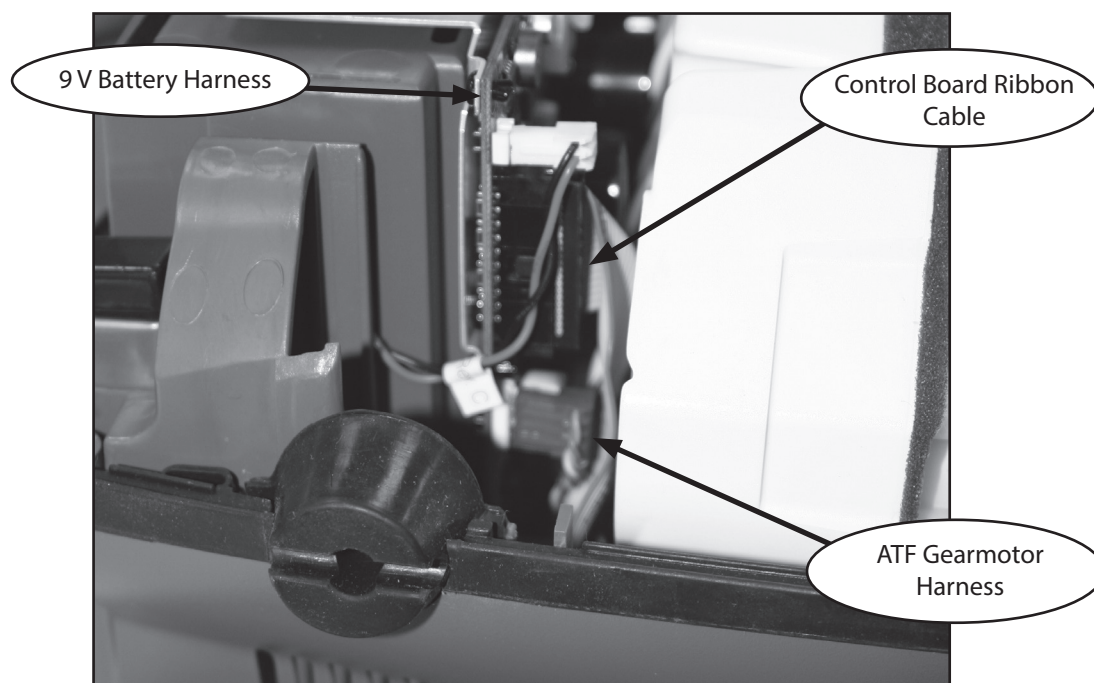

Fig 66: Wire harnesses and control board ribbon
- 1.6 Pull the Power Manager pcb 1" out of the case. Gently push the compressor box away from the Power Manager pcb about 1/8". Slide the board and the cabling out from under the edge of the compressor for better access. Disconnect the two wire harnesses (9V batt & ATF harness) and the Control board ribbon cable shown in Fig 66. Remove the Power Manager pcb.
2. Flip unit over onto a padded ESD safe surface. Using a small flat tip screwdriver to pry open the cover at each pry point, remove the Case Bottom Cover as shown in Figure 66.